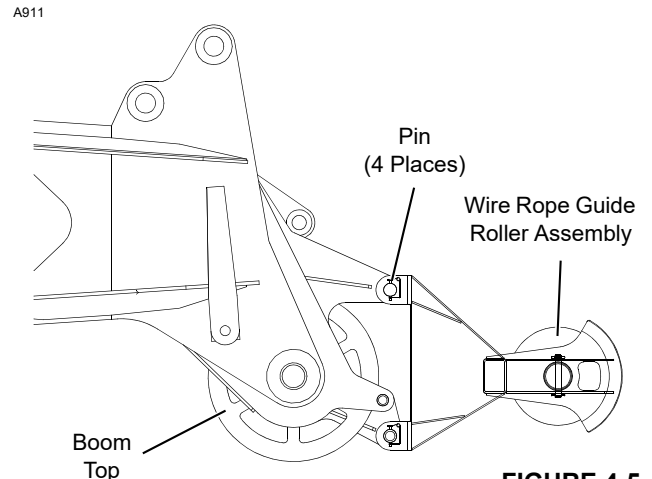

FIGURE 4-5
- a. Attach nylon sling (8, View A) from assist crane to bar (9) in upper wire rope guide.
- c. Remove pin (11) from holes (A).
- d. Slowly hoist with assist crane to rotate wire rope guide (7) to working position (View B).
- e. Pin links (10, View B) to holes (B).
9. For fold-under luffing jib, install wire rope guide roller assembly on boom top with pins and snap pins (Figure 4-5). **This wire rope guide must be removed for operation with layout luffing jib.**